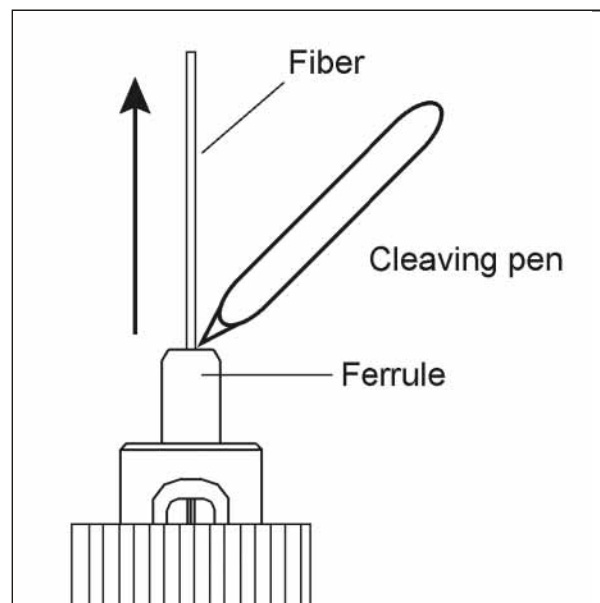

Figure 2. Score fiber with cleaving pen and separate the fiber by pulling up.
5. Use a cleaving pen to gently score the fiber as close to the ferrule end as possible. (See Figure 2) Note: If the fiber breaks during the scoring process, it means that the score was too deep, which will result in a poor fiber end face and high losses.